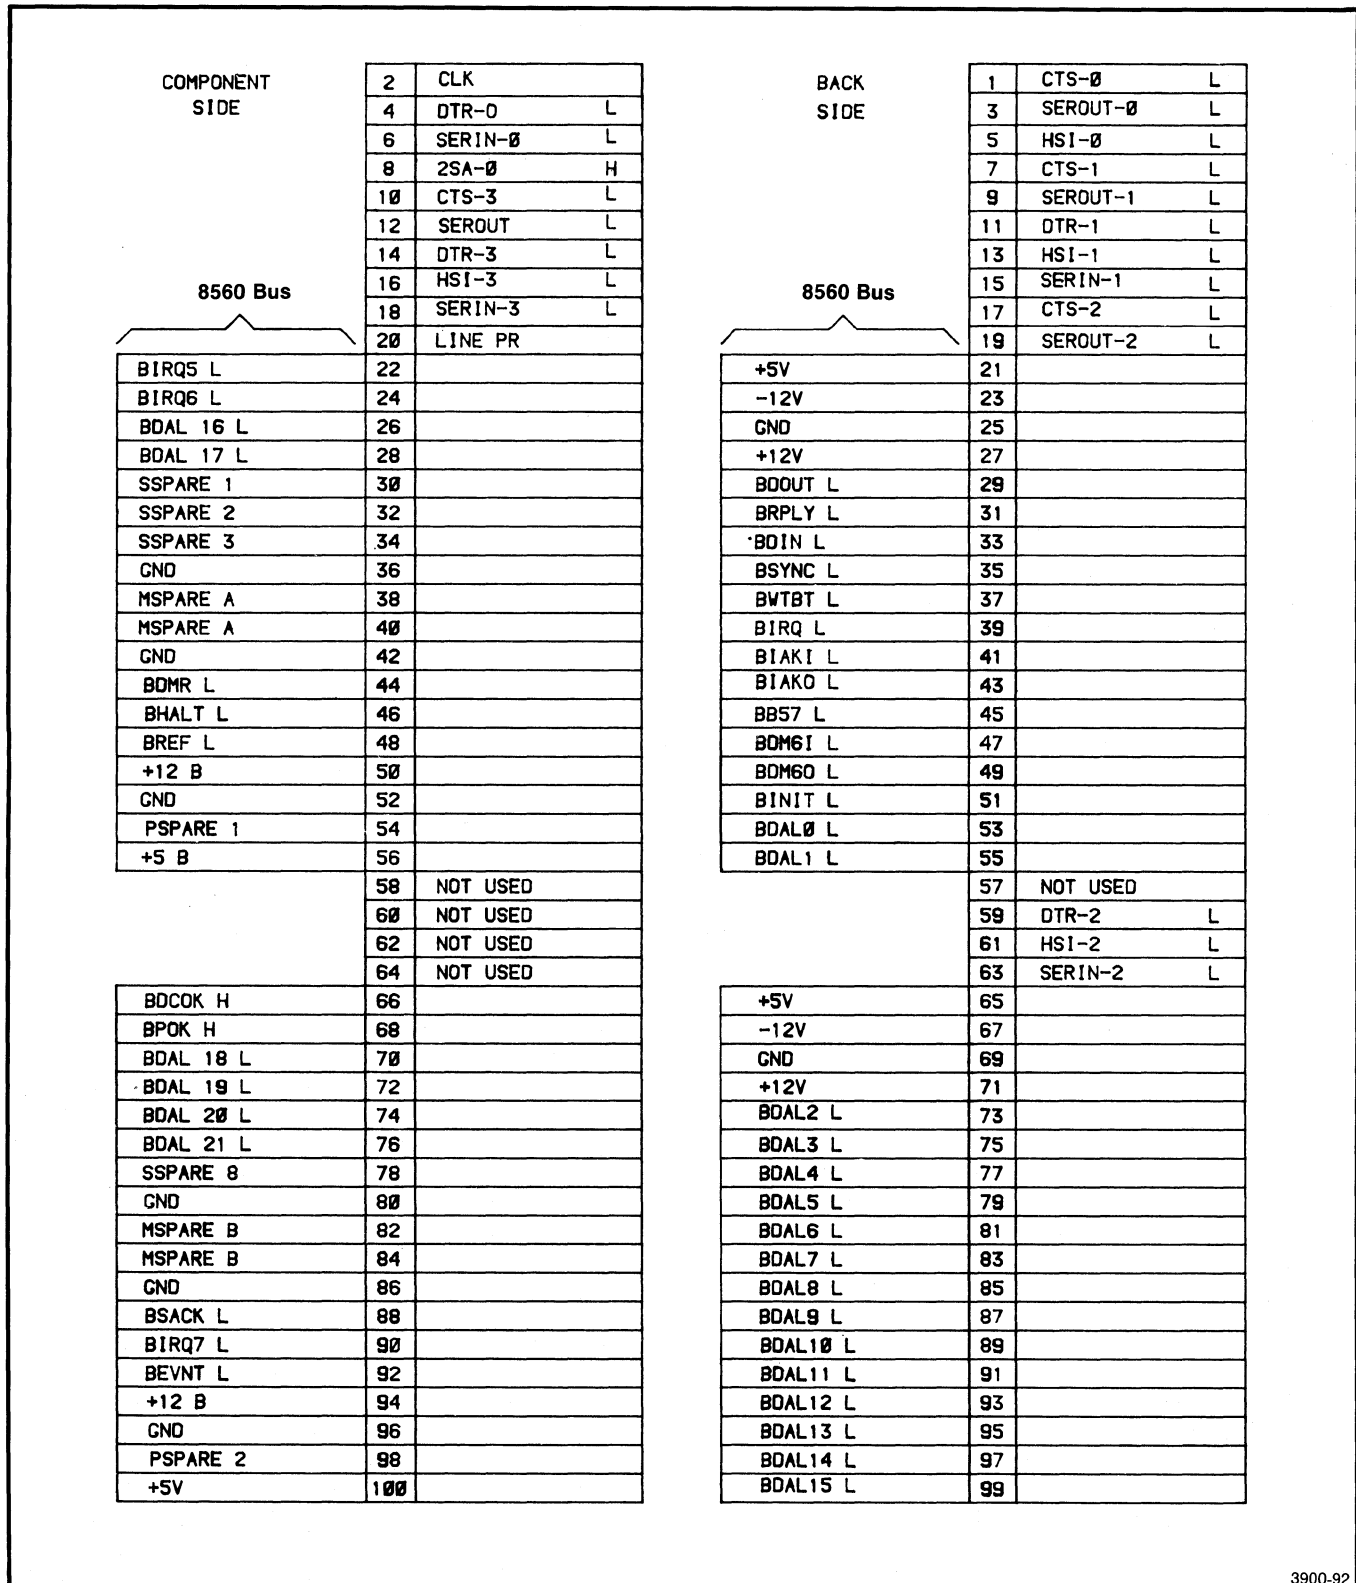

Fig. 19-5. J11 and J12 I/O Processor 2 and 1.
- J11—I/O Processor Board 2 (Fig. 19-5)
- J12—I/O Processor Board 1 (Fig. 19-5)